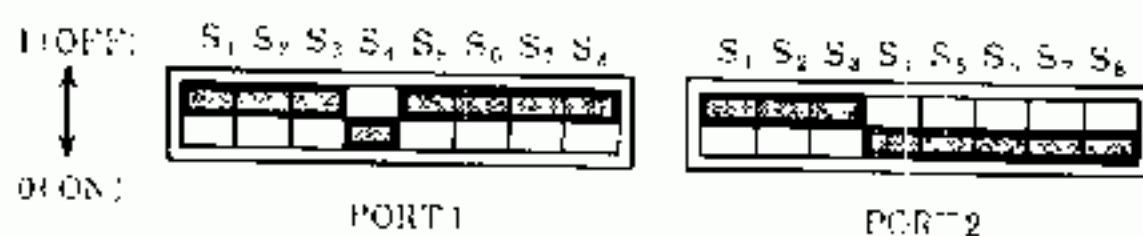

Fig. 5.1.124 P190 DIP Switch Setting
- The P190 DIP switch has been preset to the state of mark prior to shipment as shown in Fig.5.1.124.
- MEMOLINK can be connected, without changing the setting condition as shown in Fig. 5.1.124.